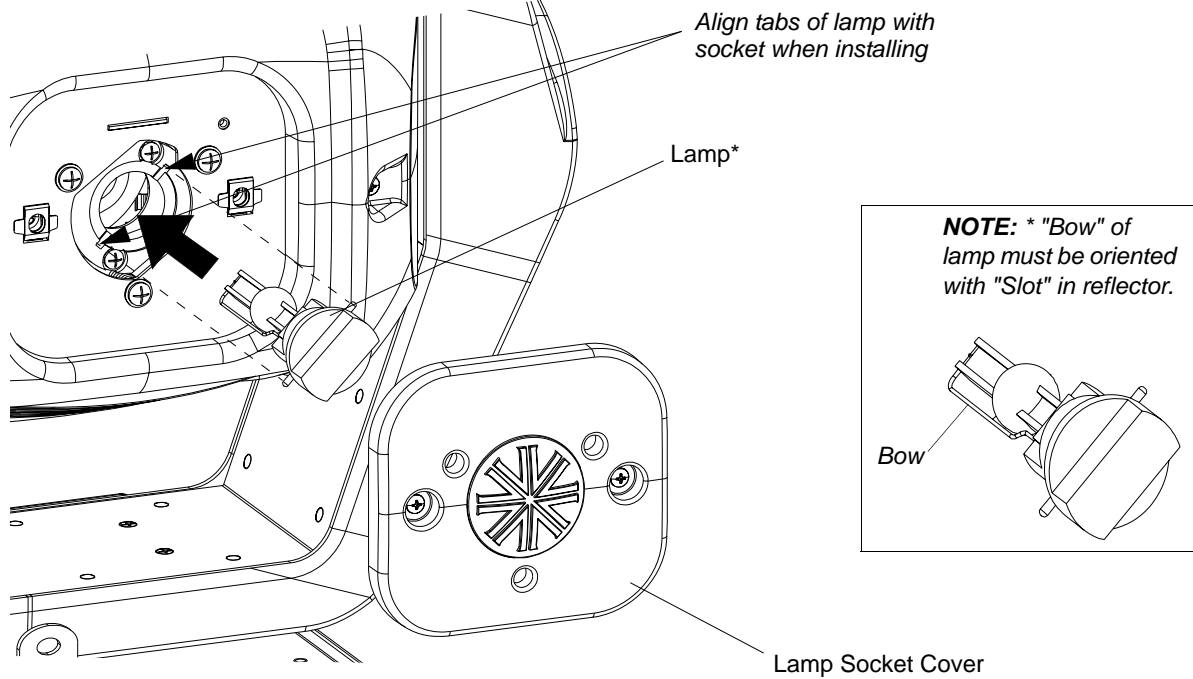

Figure A-2: Lamp Installation
Step 6. As shown in Figure A-2, align lamp tabs with lamp socket.